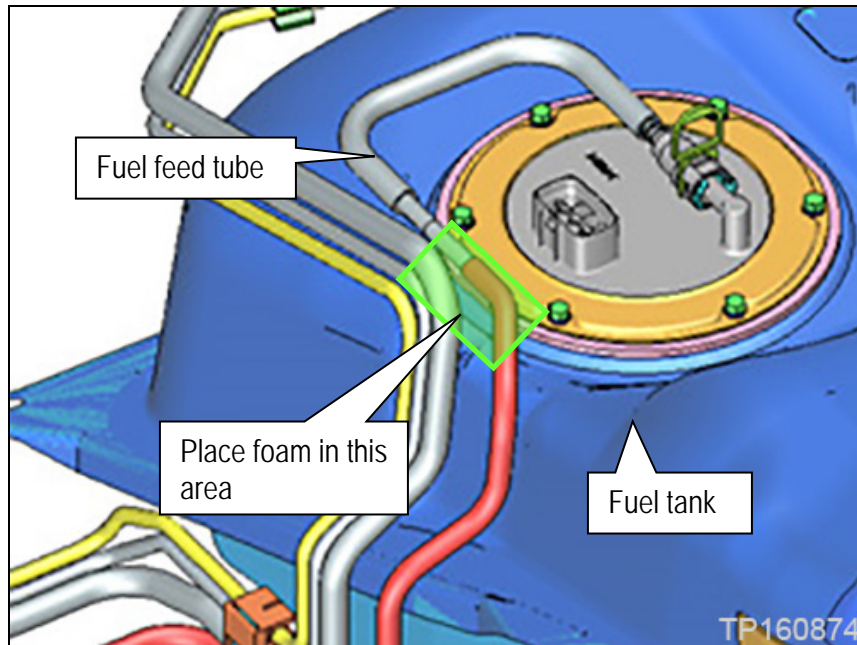
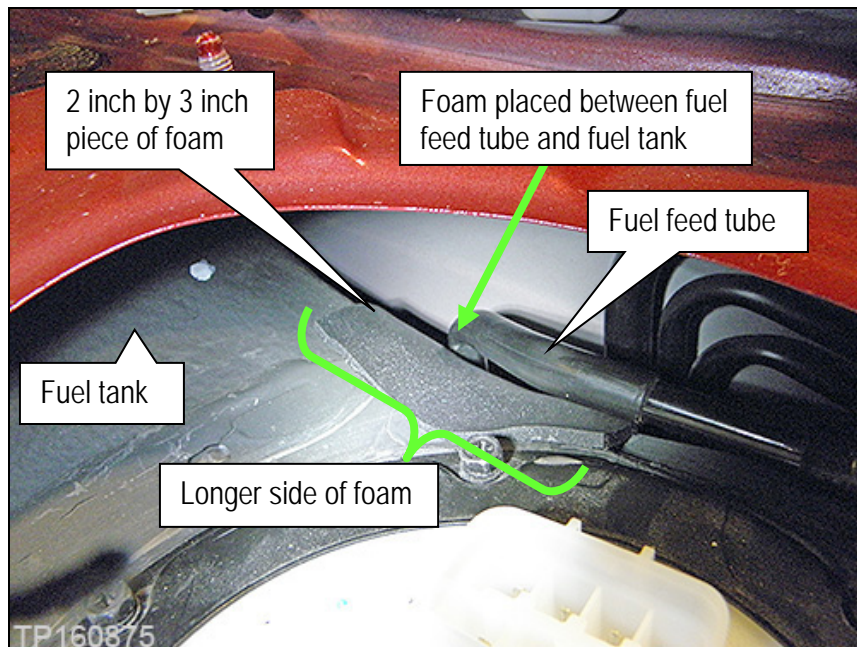

Figure 4
Figure 5
7. Attach the foam to the fuel tank under the fuel feed tube where shown in Figure 4 and as shown in Figure 5.
- The foam should be placed such that the fuel feed tube cannot touch the tank as shown in Figure 5.